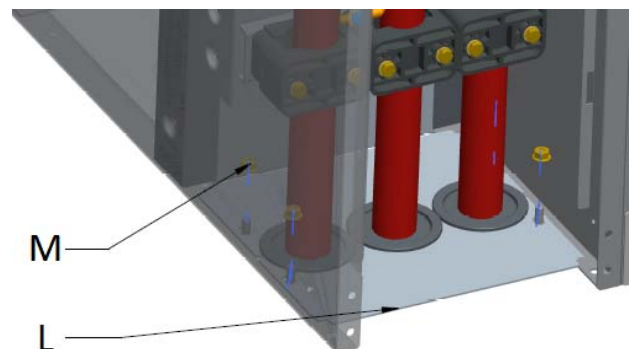

Figure 28: Putting back bottom panels
- Connect the front bottom panel (Figure 28 L) in such a way that the transit rubbers are fixed by both bottom panels. Screw in both bottom panels using four self-securing hexagonal flange nuts (Figure 28 M).